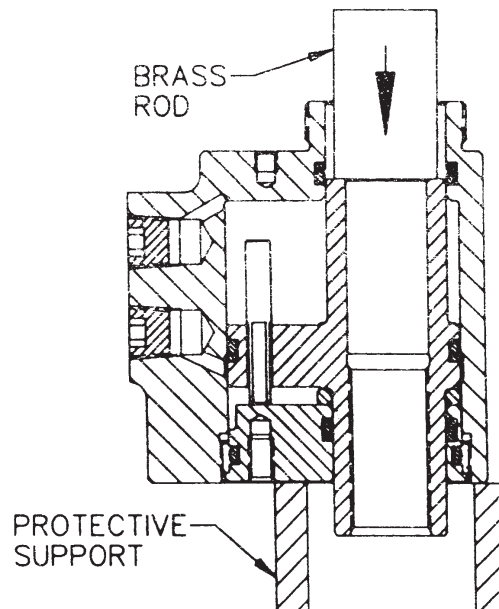

Figure 4 - Removing Piston and Cap
- STEP 2. Then using a brass drift/rod, resume pressing on piston rod until piston rod and gland are free of cylinder (see Figure 4).